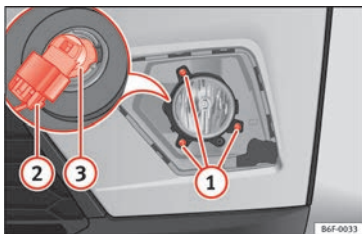

Fig. 114 Fog light: remove the bulb holder
2. Remove the 3 screws » Fig. 114 (1) and remove the fog light.
3. Remove the bulb connector (2).
4. Turn the bulb holder (3) to the left and pull.